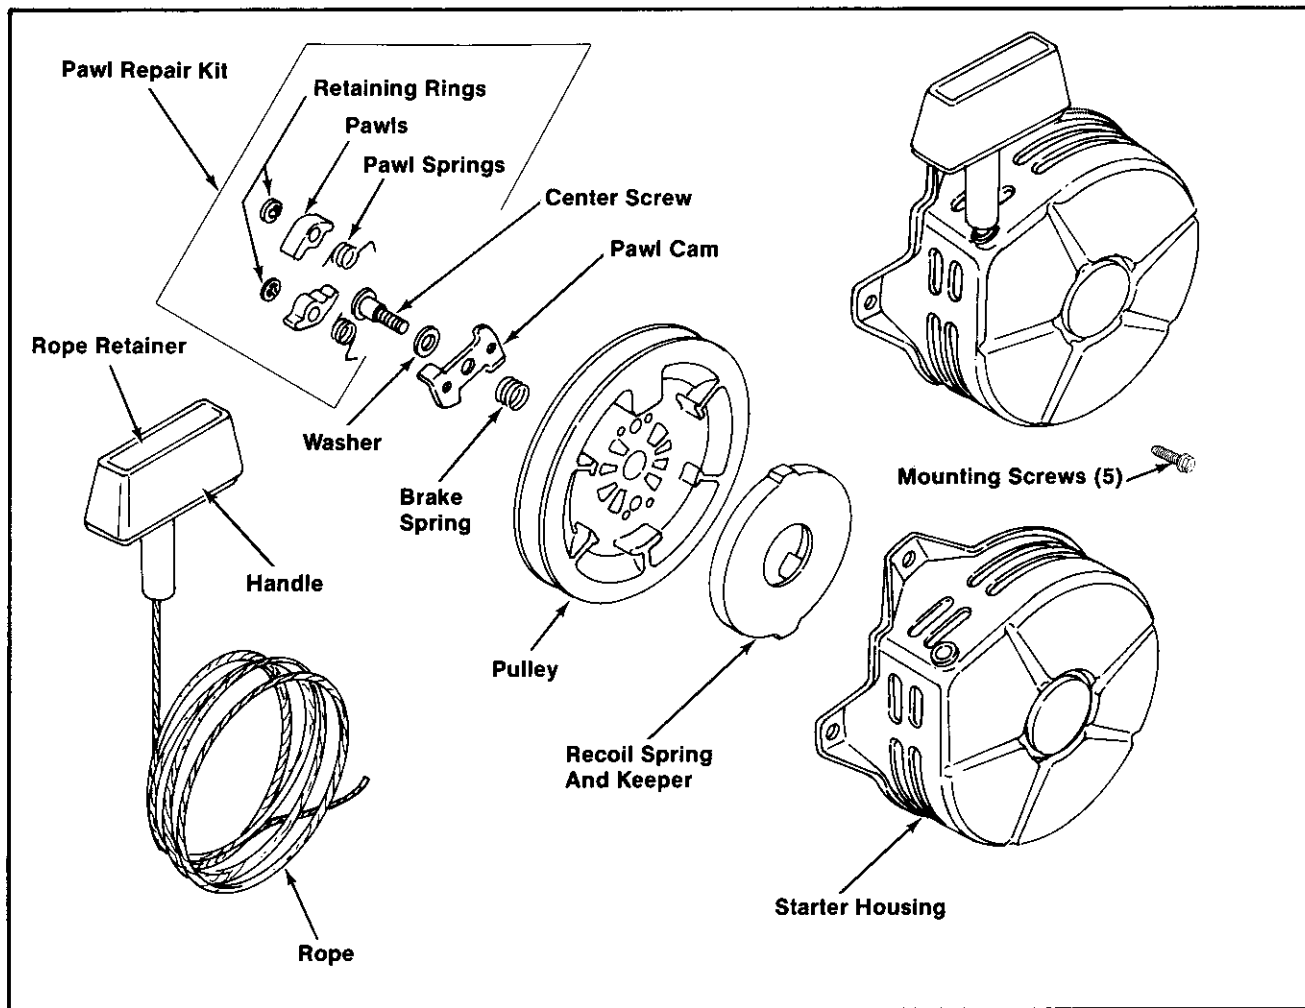

Figure 7-2. Exploded View—Retractable Starter for Model M8
2. Replace all worn or damaged components. Use only genuine Kohler replacement parts specified in the Parts Manual. All components shown in Figure 7-2 are available as service parts. Do not use nonstandard parts.
3. Lubricate the brake spring **sparingly** with grease. Install the brake spring into the recess in center shaft of starter housing. Refer to Figure 7-2. (Make sure the threads in center shaft remain clean, dry, and free of grease or oil.)